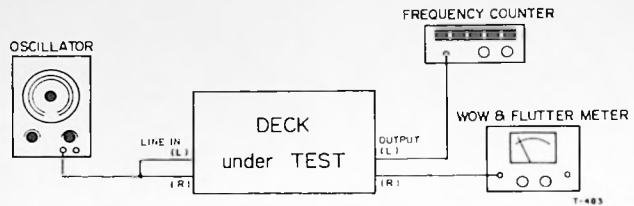

Fig. 4-8 Tape Speed/Wow and Flutter Measurement Setup
1. Connect test equipment to the deck, except the AF oscillator, as shown in Fig. 4-8.
1. Connect test equipment to the deck as shown in Fig. 4-8.